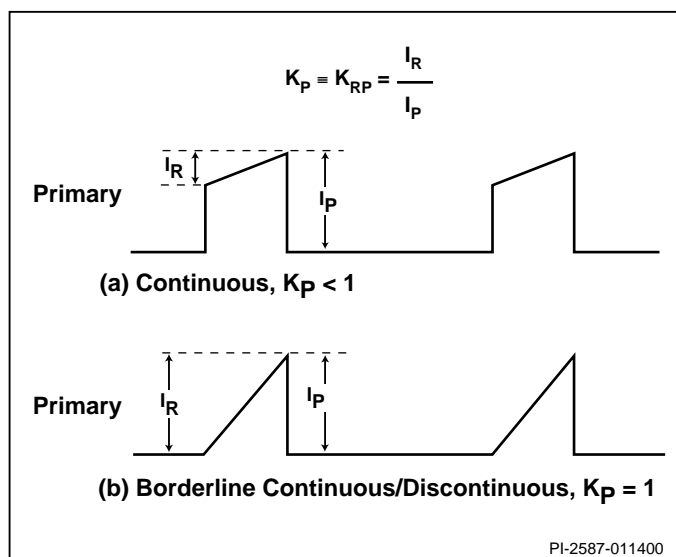

Figure 9. Continuous Mode Current Waveform, $K_p \leq 1$.
Step 5. Set current waveform parameter K_p for desired mode of operation and current waveform: $K_p = K_{RP}$ for $K_p \leq 1.0$ and $K_p = K_{DP}$ for $K_p \geq 1.0$ (Figures 9 and 10)
- For $K_p \leq 1.0$, $K_p = K_{RP}$, continuous mode (see Figure 9)